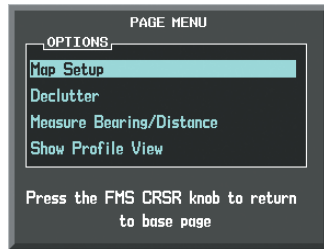

Figure 6-177 Navigation Map Page Menu
- 3) With Map Setup highlighted, press the **ENT** Key (Figure 6-177).